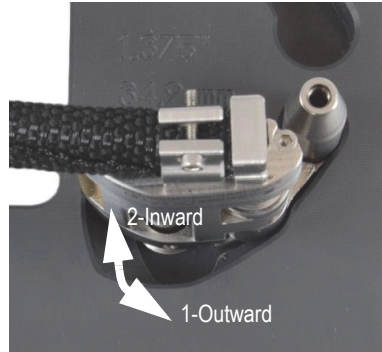

Figure 2-9 Tightening the tail-adjustment screw
- c) While holding the tail assembly in the pocket, from the opposite side, firmly tighten the tail-adjustment screw with the 2.5 mm hexagonal driver (see Figure 2-9 on page 39).